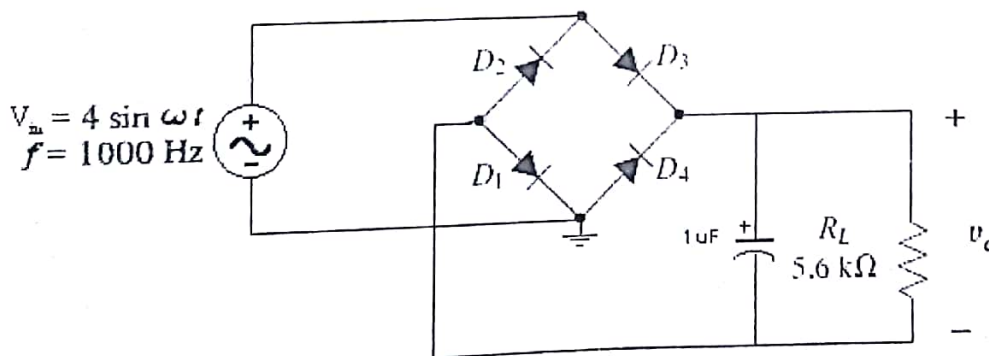

Fig.8: Filtered Bridge Rectifier
- Add a $1 \mu\text{F}$ capacitor in parallel with the bridge rectifier load as shown in Figure 8. Use the DMM to measure V_o , and record this value.
3. Refer to the circuit shown in Figure 8, how would you decrease the ripple in the output voltage?